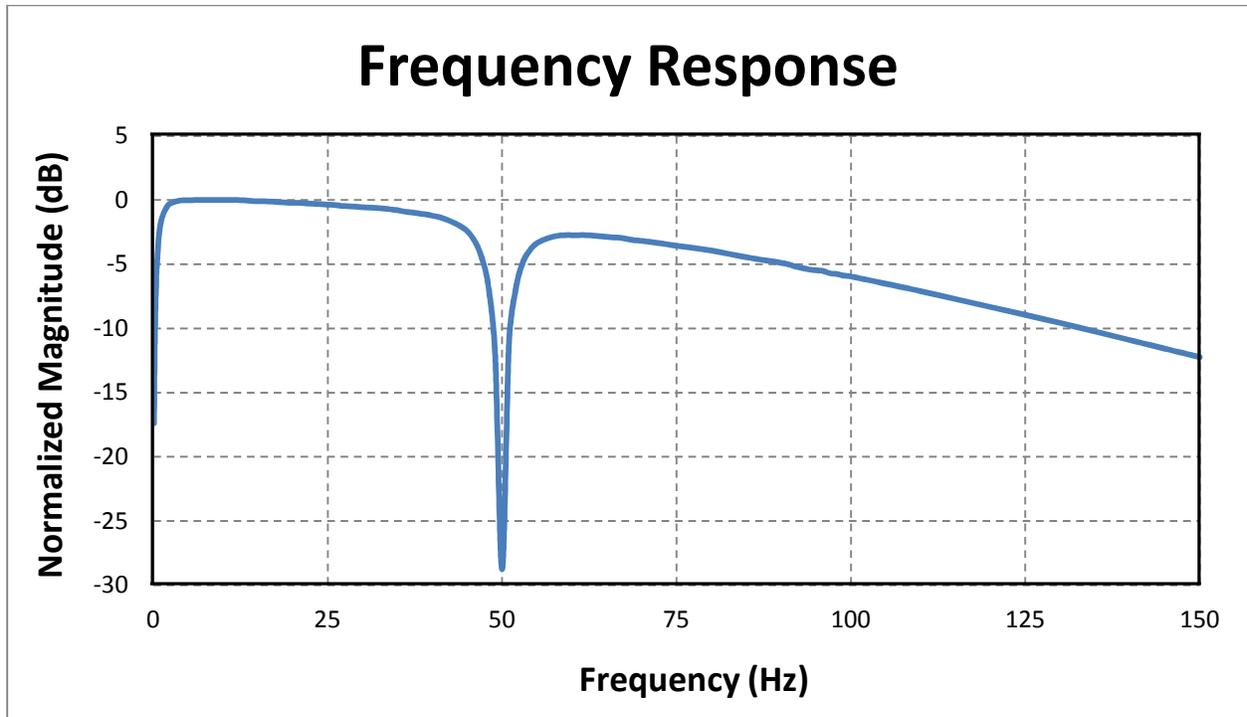

Figure 16: Typical frequency response of the BES-AFE-1-B/D module
**Figure 23:** QRS Detection Schematic – The resistor values used in the schematic were calculated assuming a  $V_{DD} = 3.3v$  and a reference of 1.242v. The comparator and/or module reference can alternatively be sourced from one of the three suggested possible solutions laid out in figures 16 through 18.